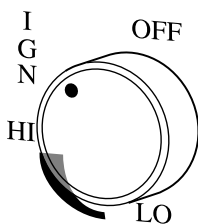

Figure 23: IGN Position
6. From OFF position, push in gas control knob slightly and turn counterclockwise  to the IGN position. See *Figure 23*. Push in and hold control knob for 5 seconds.